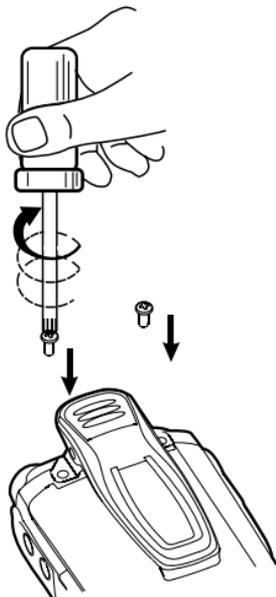

Figure 7-
2. Align the belt clip's screw holes to the radio's chassis. Turn the screw clockwise into the belt clip's screw holes. See Figure 7 below.